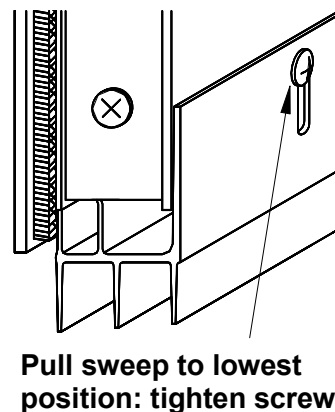

Fig. 3
3. Pull expander down fully and tighten the screws. See Fig. 3.